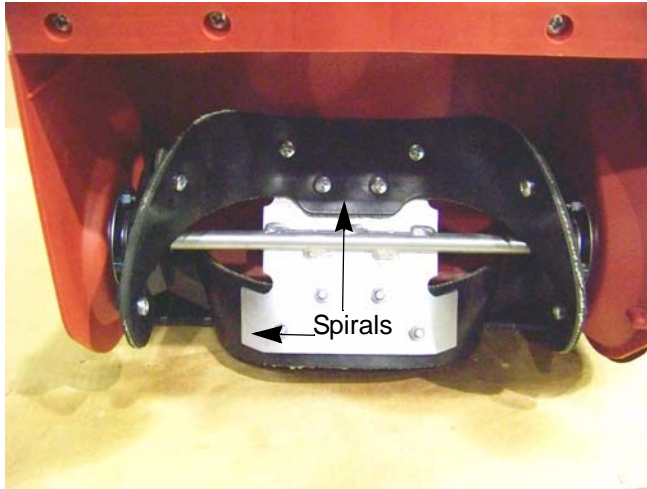

Figure 4.1
2. Remove the nuts and bolts that hold the rubber spirals to the auger assembly using a #3 phillips screw driver and a 10mm wrench. See Figure 4.1.